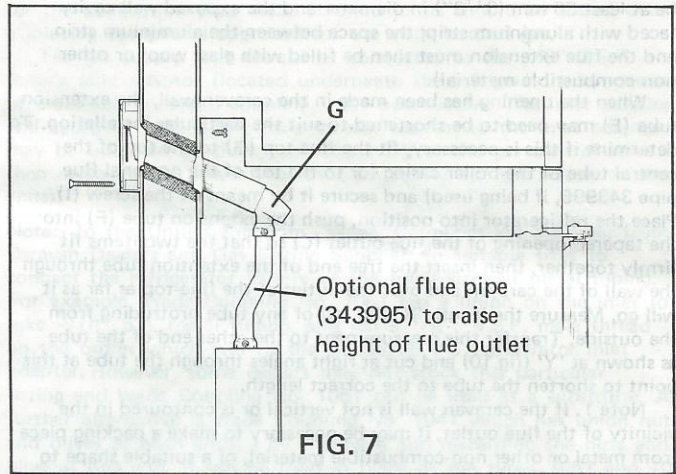

FIG. 7
Note: It is recommended that, where possible, the flue top (G) is fitted directly on top of the central tube of the boiler as shown in figs. 5 and 6. If, however, due to the shape or construction of the caravan wall, or other reasons, it is desired to raise the height of the flue outlet, the additional flue pipe (part No. 343995) may be fitted to the top of the central tube of the boiler (secured by a screw), and the flue top (G) then fitted to the top of this flue pipe as illustrated in fig.7. This will raise the height of the flue outlet in the wall of the caravan by approximately 120mm (4 3/4").